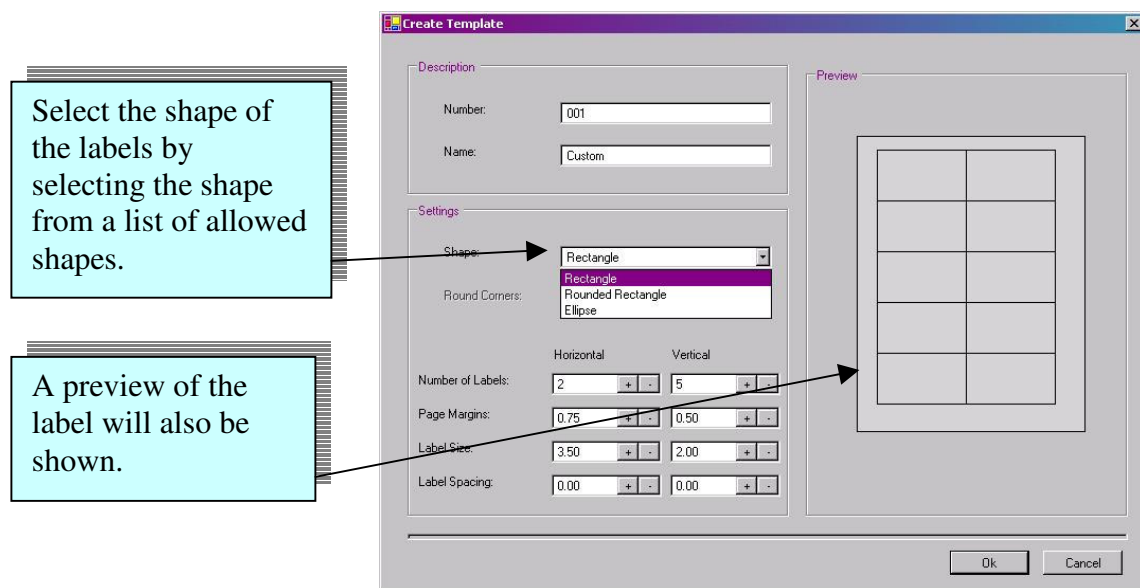

Figure 3.3.8: Shape Selection
5. Select the shape that you want the label to be by selecting the shape from a list of allowed shapes (see Figure 3.3.8).